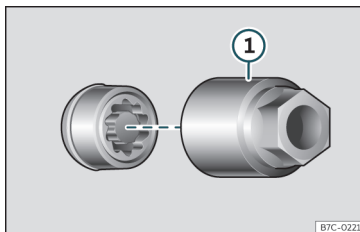

Fig. 36 Anti-theft wheel bolt with cap and adapter.
- Insert the special adapter >>> Fig. 36 ① (vehicle tools >>> page 43) onto the anti-theft wheel bolt and push it on as far as it will go.